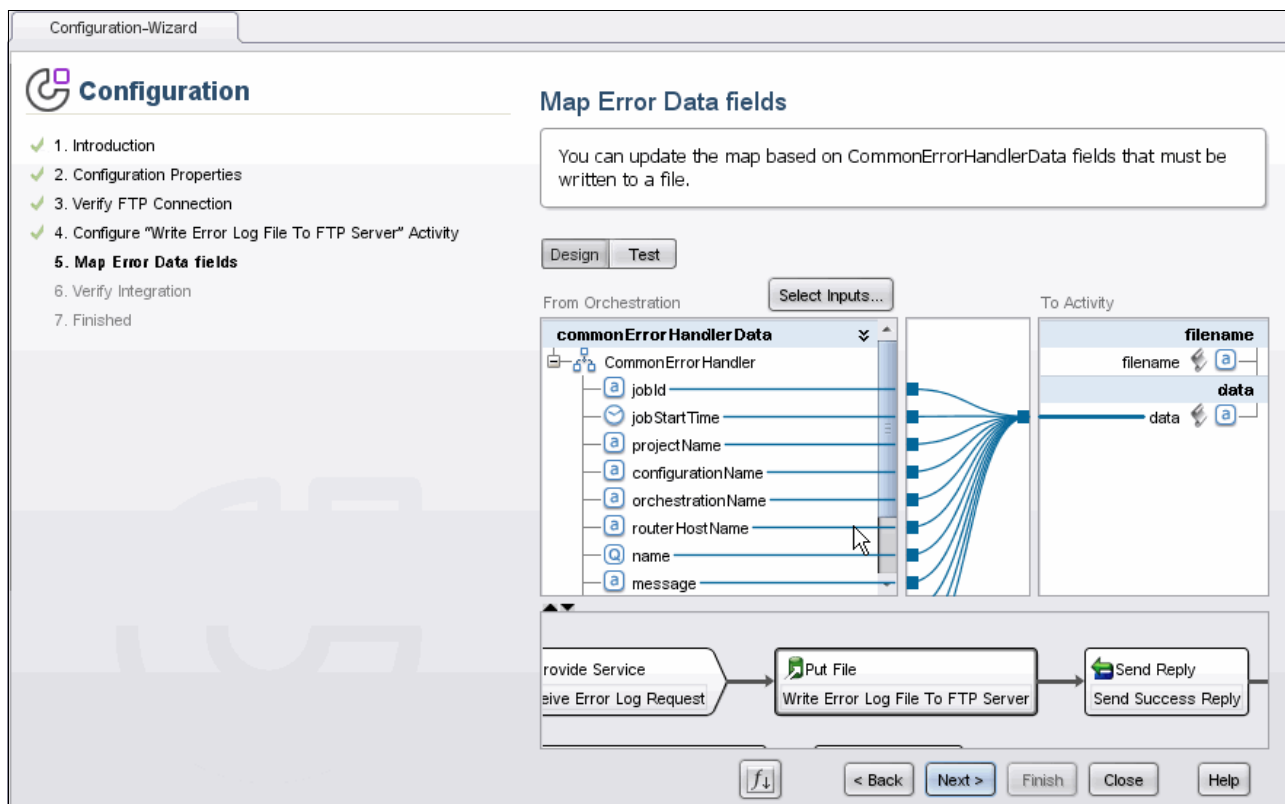

Figure 7-29 Configuration Wizard Map Error Data fields step
6. Optionally, you can change the mapping in the Map Error Data fields step, as shown in Figure 7-29. For our scenario, the current mapping is fine. Click **Next**.